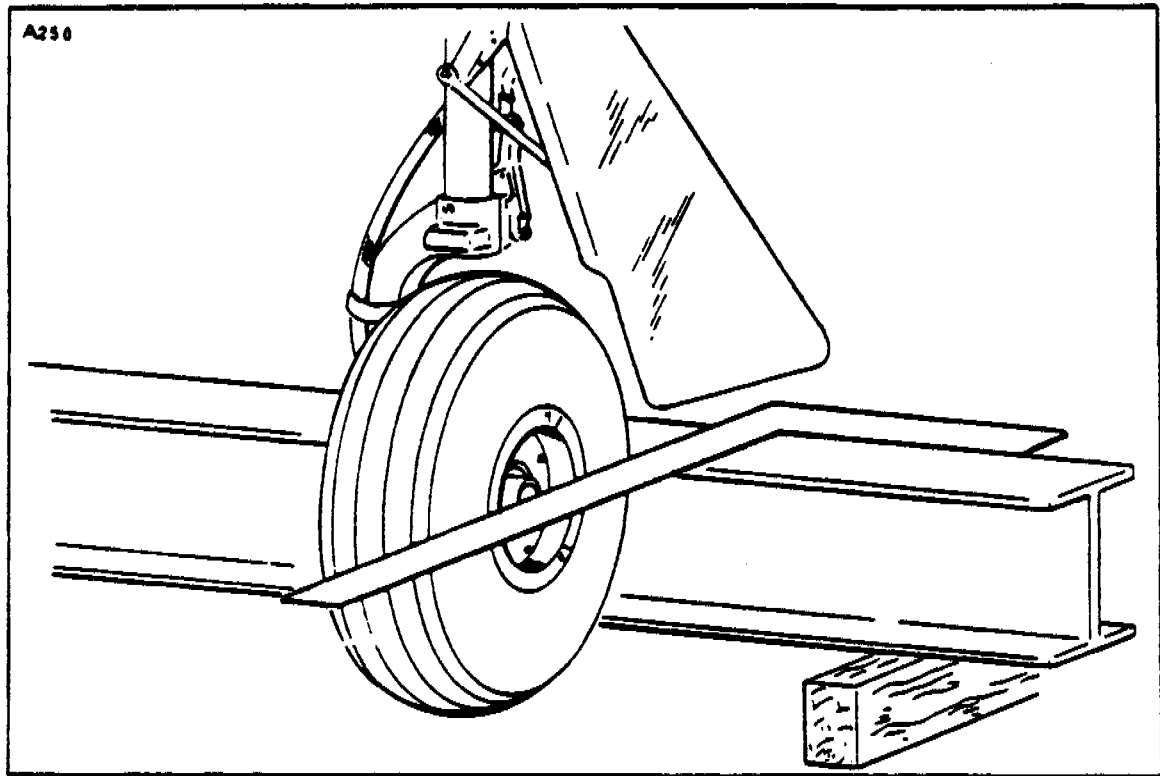

FIGURE 6-11. ALIGNING MAIN GEAR
- b. Set a square against the straight edge and check to see if its outstanding leg bears on the front and rear sides of the main landing gear tire. (Refer to Figure 6-11.) If it touches both outboard sides of the tire, the landing gear is correctly aligned. The toe-in for the main landing gear wheels is 0 degrees.